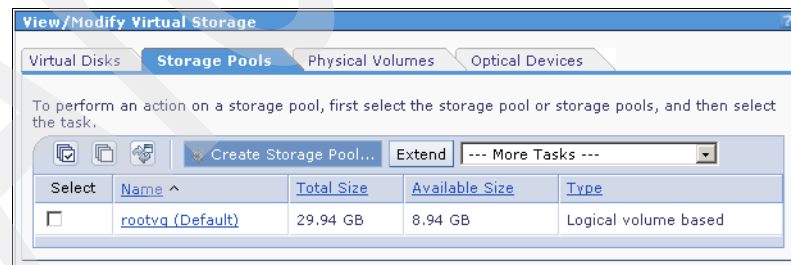

Figure 6-1 Media library - create storage pool
1. Click **View/Modify Virtual Storage** in the left menu under Virtual Storage Management. Then, click the **Storage Pools** register card. Create a new storage pool by clicking **Create Storage Pool**. See Figure 6-1.